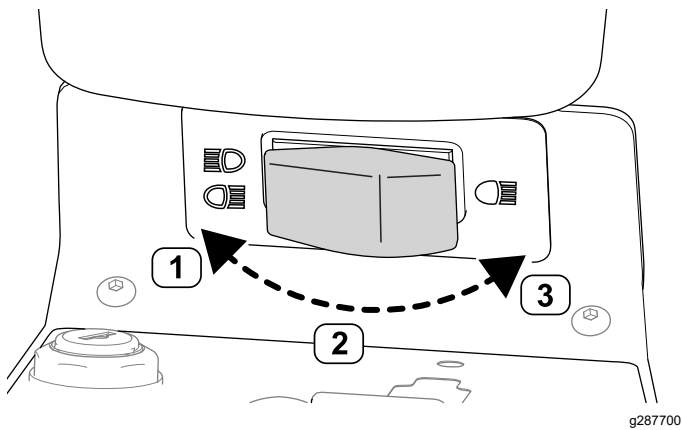

Figure 2
2. Use the switch (Figure 2) to test if the rear light is functioning: